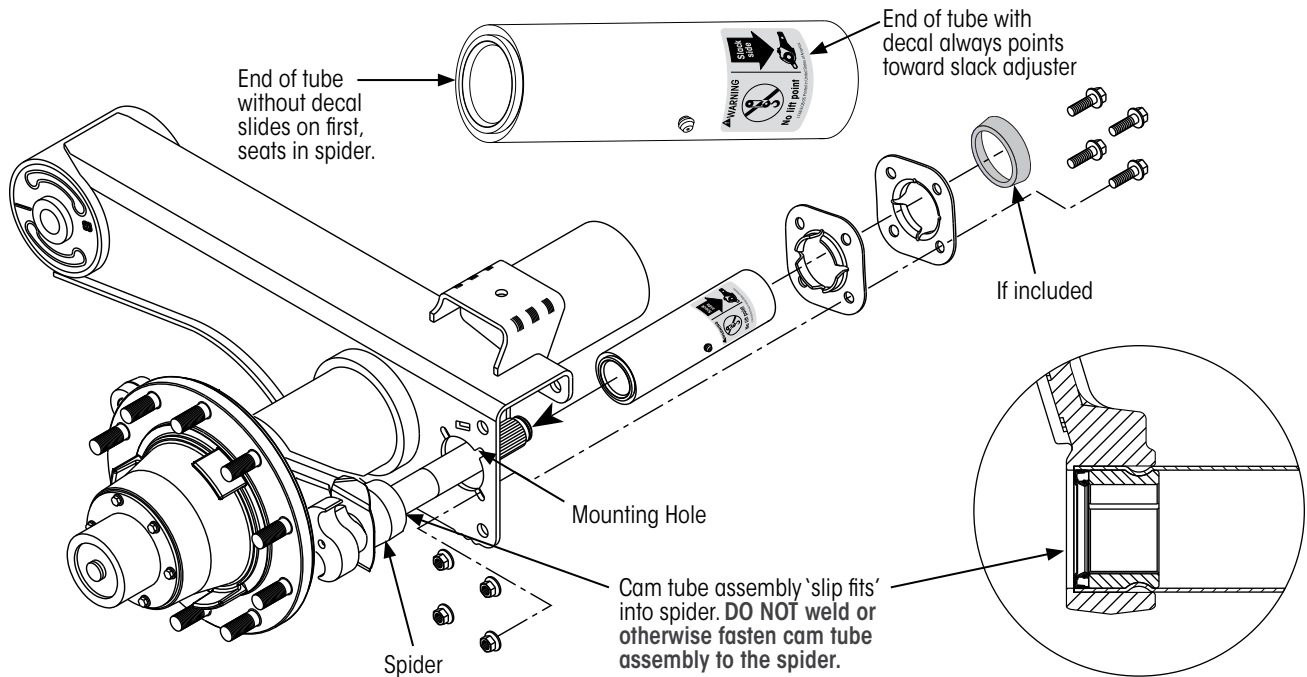

Figure 23: Cam tube assembly orientation and installation details Accessible grease fitting orientation
2. **Orient** the end of the cam tube without the decal so that it goes onto the camshaft first (Figure 23). The end of the cam tube with the decal must be closest to the slack adjuster.
3. From the inboard side of the suspension beam, **slide** the new cam tube assembly onto the new S-cam, through the mounting hole in the suspension beam and into the spider as shown in Figure 23.